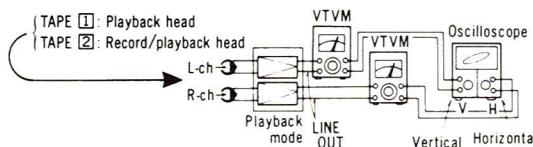
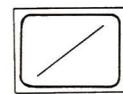

Fig. 6
Fig. 7
<p>B Head azimuth adjustment [TAPE ①, TAPE ②]</p> <p>Condition: • Playback mode</p> <p>Equipment: • VTVM • Oscilloscope • Test tape (azimuth) ... QZZCFM</p>	<p>L-ch/R-ch output balance adjustment</p> <ol style="list-style-type: none"> <li>1. Make connections as shown in fig. 3.</li> <li>2. Playback the 8kHz signal from the test tape (QZZCFM). Adjust screw (B) in fig. 4 for maximum output L-ch and R-ch levels. When the output levels of L-ch and R-ch are not at maximum at the same time, readjust as follows.</li> <li>3. Turn the screw shown in fig. 4 to find angles A and C (points where peak output levels for left and right channels are obtained). Then, locate the angle B between angles A and C, i.e., a point where L-ch and R-ch output levels come together at maximum. (Refer to figs. 4 and 5.)</li> </ol> <p>L-ch/R-ch phase adjustment</p> <ol style="list-style-type: none"> <li>4. Make connections as shown in fig. 6.</li> <li>5. Playback the 8kHz signal from the test tape (QZZCFM). Adjust screw (B) shown in fig. 4 so that pointers of the two VTVMs swing to maximum and a waveform as illustrated in fig. 7 is obtained on the oscilloscope.</li> </ol>
4. Make connections as shown in fig. 6.
5. Playback the 8kHz signal from the test tape (QZZCFM). Adjust screw (B) shown in fig. 4 so that pointers of the two VTVMs swing to maximum and a waveform as illustrated in fig. 7 is obtained on the oscilloscope.